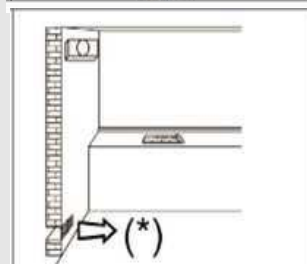

FIG. 5
- If it is not possible to install the hood, a ventilating fan must be installed on the outside wall or the window of the room (FIG.5).